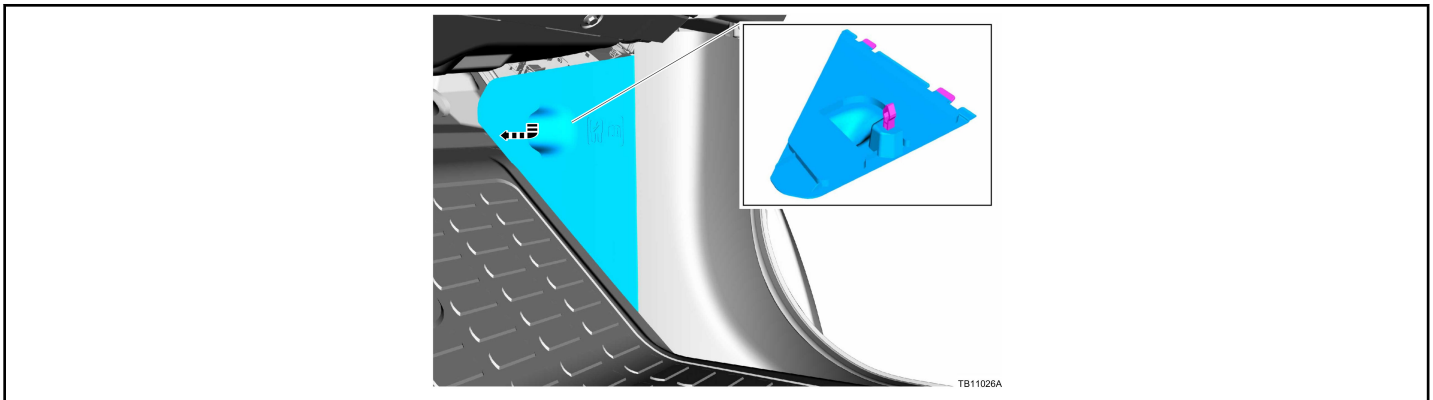

Figure 3 - Article 17-0013
6. Remove the body control module (BCM) fuse access cover. (Figure 3)